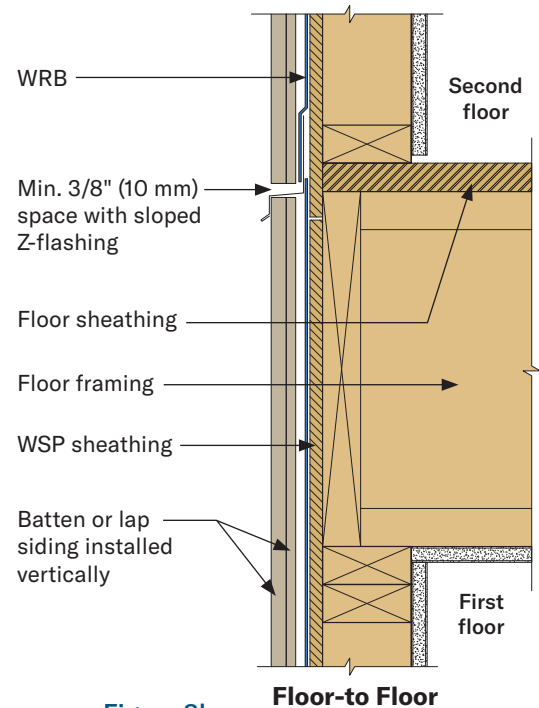

Figure 8b
- DO NOT bridge floors with lap installed vertically or battens. (Figures 8b)